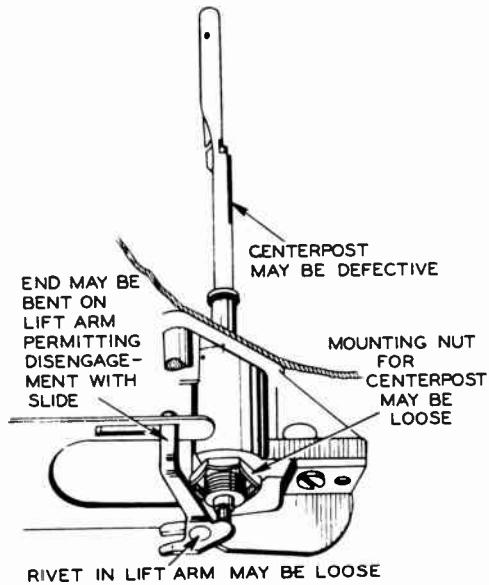

Figure V20.
10. **Changer Will Not Separate Records:** See figure V20.